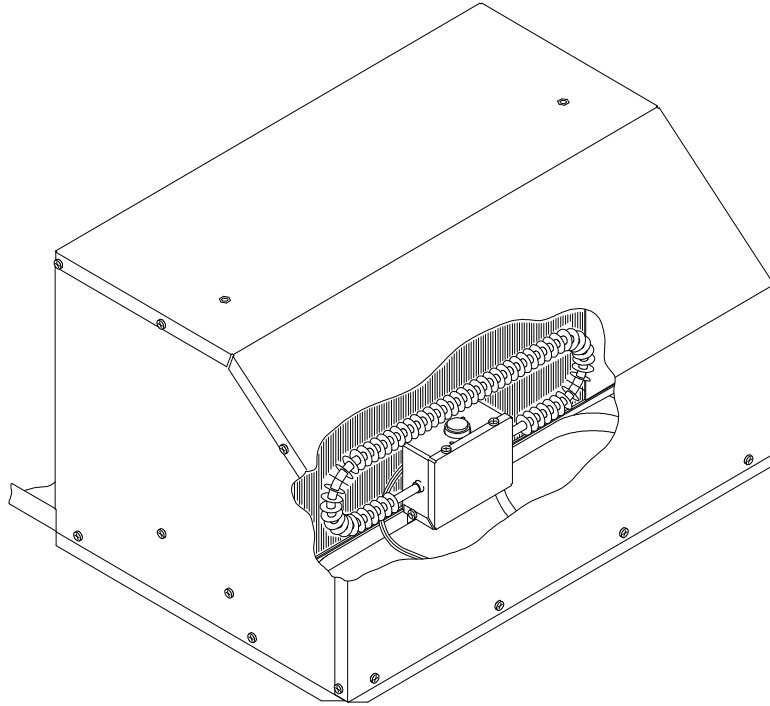
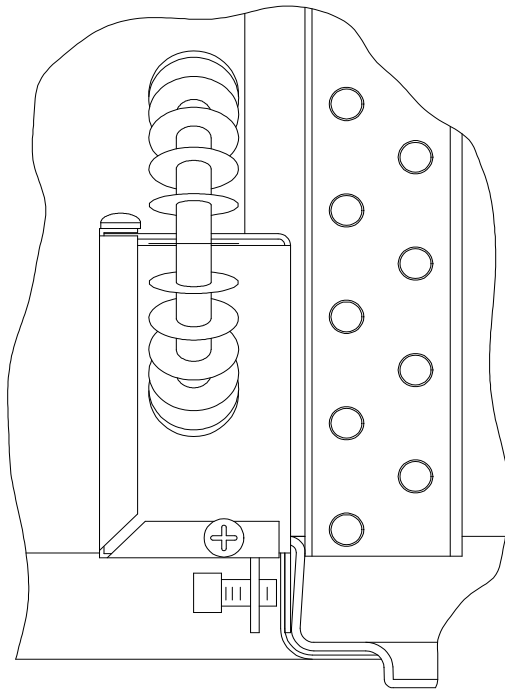

FIGURE 3
FIGURE 4
8. Position the heater assembly in the air conditioner return air opening as shown in Figure 3. The heater bracket must be installed over the metal basepan extrusion and positioned between the basepan and the plastic drain pan (See Figure 4). Tighten set screw to secure the assembly so as to prevent movement.